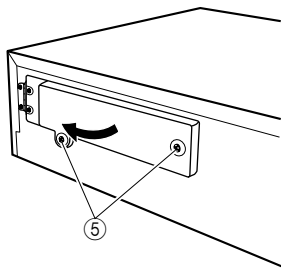

Fig. 2
- Loosen 2 screws (⑤) on the HDD slot door and open the HDD slot door. (Fig. 2)